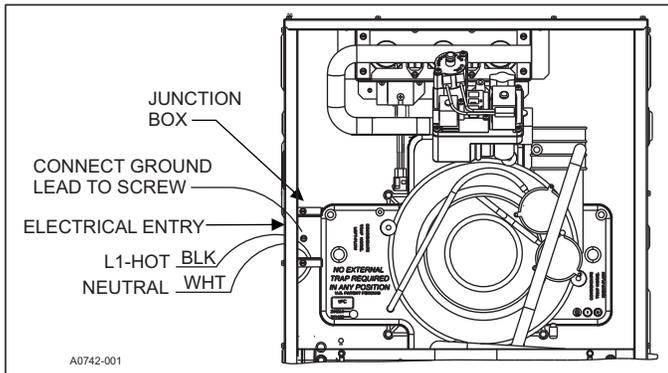

FIGURE 14: Electrical Wiring
2. Remove the screws retaining the wiring box cover. Route the power wiring through the opening in the unit into the junction box with a conduit connector or other proper connection. In the junction box, there are two wires: a black wire and a white wire. Connect the power supply as shown on the unit-wiring label on the inside of the blower compartment door or the wiring schematic in this section. The black furnace lead must be connected to the L1 (hot) wire from the power supply. The white furnace screw must be connected to neutral. Connect the power supply ground to the green screw (equipment ground). An alternate wiring method is to use a field provided 2 in. (5.1 cm) x 4 in. (10.2 cm) box and cover on the outside of the furnace. Route the furnace leads into the box using a protective bushing where the wires pass through the furnace panel. After making the wiring connections, replace the wiring box cover and screws. Refer to Figure 14.
3. The furnace's control system requires correct polarity of the power supply and a proper ground connection. Refer to Figure 14.